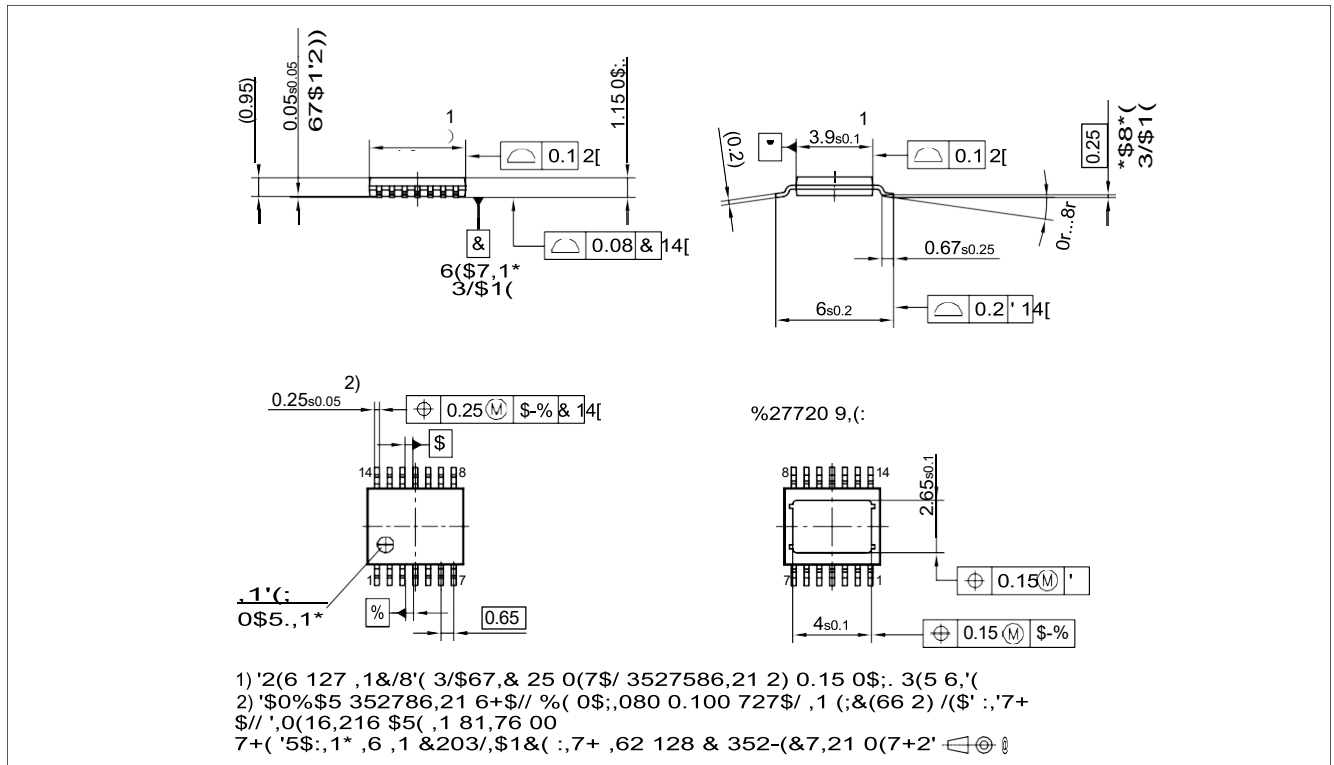
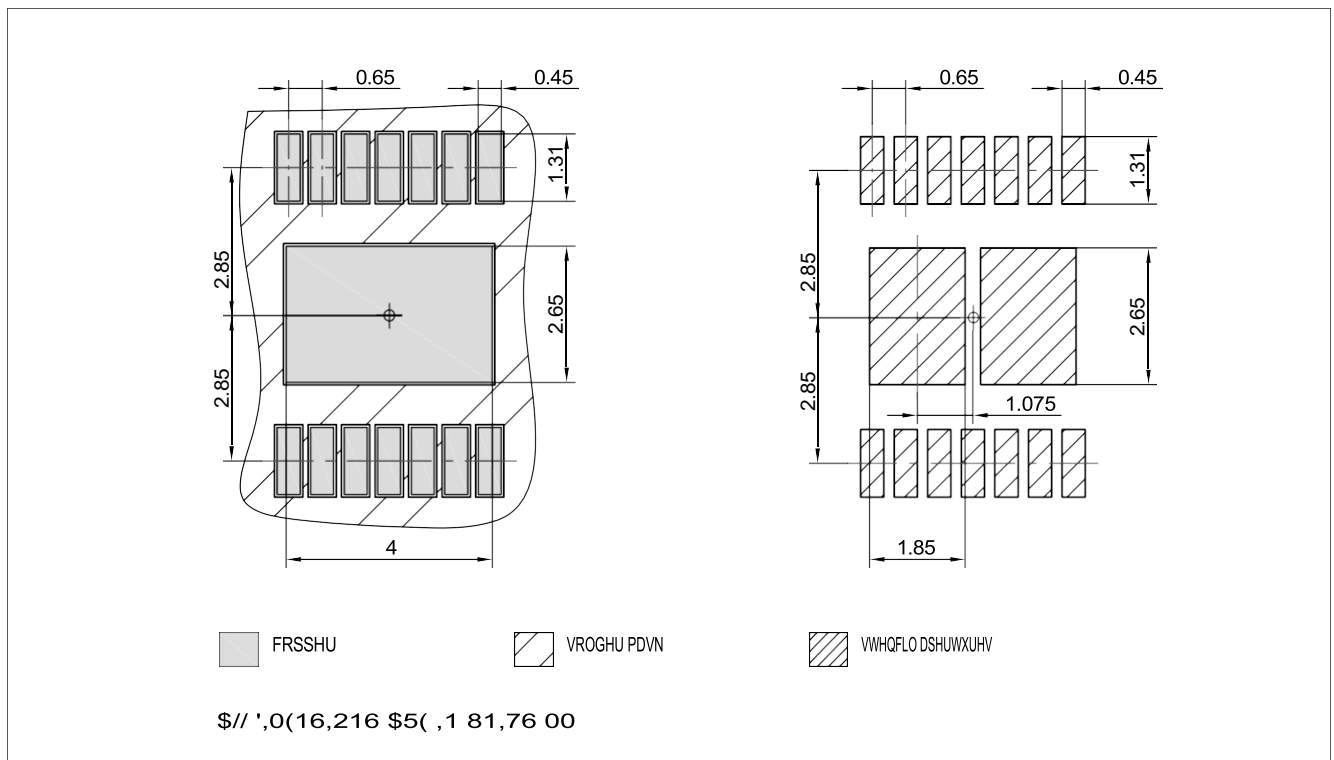

Figure 44 PG-TSDSO-14 (Thin (Slim) Dual Small Outline 14 pins) Package Outline
Figure 45 PG-TSDSO-14 (Thin (Slim) Dual Small Outline 14 pins) Package pads and stencil
1.13, 2019-06-26	<p>Chapter 9.2 updated ($2\text{ V} \rightarrow V_{DS(OLOFF)}$)</p> <p>Chapter 8.2 updated</p> <p>General: updated (ReverSave™ → ReverseON)</p> <p>Chapter 1 updated ((inserted headline "Product Validation"), (Qualified in accordance with AEC Q100 grade 1 → Qualified for automotive applications. Product validation according to AEC-Q100 Grade 1.))</p> <p>General: updated Product Name (PROFET™+2 → PROFET™+2 12V)</p> <p>Page 1: updated figure product</p> <p>Table 24 updated punctuation</p> <p>Chapter 9.3.1 updated (typo)</p> <p>Page 1: updated (Package PG-TSDSO-14-22 → Package PG-TSDSO-14)</p> <p>Figure 29 updated</p> <p>Figure 44 updated (PG-TSDSO-14-22 (Thin (Slim) Dual Small Outline 14 pins) Package Outline → PG-TSDSO-14 (Thin (Slim) Dual Small Outline 14 pins) Package Outline)</p> <p>Figure 45 updated (PG-TSDSO-14-22 (Thin (Slim) Dual Small Outline 14 pins) Package pads and stencil → PG-TSDSO-14 (Thin (Slim) Dual Small Outline 14 pins) Package pads and stencil)</p> <p>Table 1 updated ((Symbol: $I_{VS(SLEEP)} \rightarrow I_{VS(SLEEP)_{85}}$), (Parameter: Minimum Overvoltage protection ($T_J = 25\text{ °C}$) → Minimum Overvoltage protection ($T_J \geq 25\text{ °C}$))</p> <p>P_9.6.0.6 updated (Note or Test Condition: removed unnecessary line-break)</p>
<p>Rev. 1.10, 2017-10-24</p>	<p>P_7.5.1.6 updated (test condition: $R_{SENSE} = 1.2 \text{ k}\Omega$ added)</p> <p>P_7.5.1.7 updated (max: 22 \rightarrow 33 mΩ)</p> <p>P_7.5.1.7 updated (test condition: $R_{SENSE} = 1.2 \text{ k}\Omega$ added)</p> <p>Figure 16 updated ($dV_{ON}/dt \rightarrow (dV/dt)_{ON}$, $(dV_{OFF}/dt \rightarrow -(dV/dt)_{OFF}$)</p> <p>Chapter 7.3.3 updated</p> <p>P_8.6.0.1 updated (max: 220 \rightarrow 200 °C)</p> <p>P_8.6.0.8 updated typo ("Overcurrent" \rightarrow "Overcurrent")</p> <p>P_9.6.0.1 removed</p> <p>P_9.6.0.13, P_9.6.0.14 added</p> <p>P_9.6.0.6 updated ($I_L \leq 2 * L_{L(NOM)} \rightarrow I_L \leq 1.2 * I_{L(NOM)}$)</p> <p>P_9.6.0.6 updated ($V_{IS(RANGE)} \rightarrow V_{SIS}$)</p> <p>P_9.6.0.7, P_9.6.0.8 updated ($V_{IS(RANGE)} \rightarrow V_{SIS}$)</p> <p>P_9.6.0.7, P_9.6.0.8 updated ($V_{IS(RANGE)} \rightarrow V_{SIS}$)</p> <p>P_9.6.0.9 updated (symbol: $V_{IS(CLAMP)_{-40}} \rightarrow V_{SIS(CLAMP)_{-40}}$)</p> <p>P_9.6.1.14 updated (min: 50 \rightarrow - μs, test condition: "DEN = "high" from Load Change to $I_{IS} = I_L / (k_{ILIS,MIN} @ I_L) * 1.1$ from $I_L = I_{L(CAL)}$ to $I_L = I_{L(CAL)_{OL}}$" \rightarrow "DEN = "high" from Load Change to $I_{IS} = I_L / (k_{ILIS} @ I_L)$ from $I_{L(CAL)}$ to $I_{L(CAL)_{OL}}$")</p> <p>P_9.6.0.10 updated (symbol and name: $V_{IS(CLAMP)_{25}} \rightarrow V_{SIS(CLAMP)_{25}}$ and $T_J = 25 \text{ }^\circ\text{C} \rightarrow T_J \geq 25 \text{ }^\circ\text{C}$)</p> <p>Table 24 updated (R_{DSEL} included)</p> <p>Figure 44 updated</p> <p>Figure 45 updated</p>